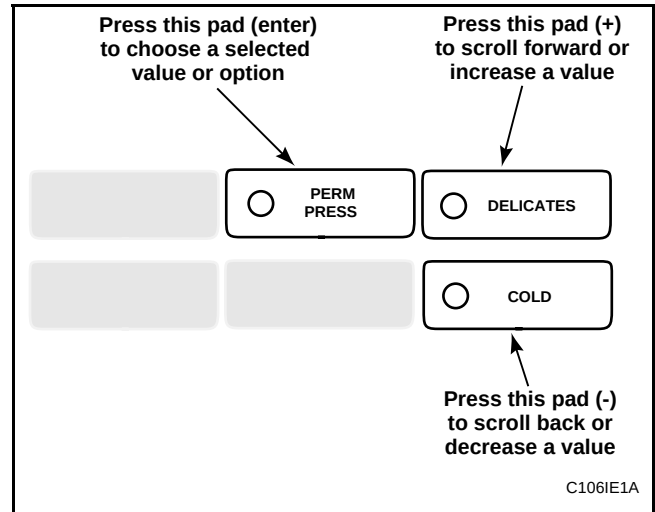

Figure 6
5. Press the DELICATES (+) or the COLD (–) keypad to increase or decrease the current three digit number until correct. See **Figure 6**.